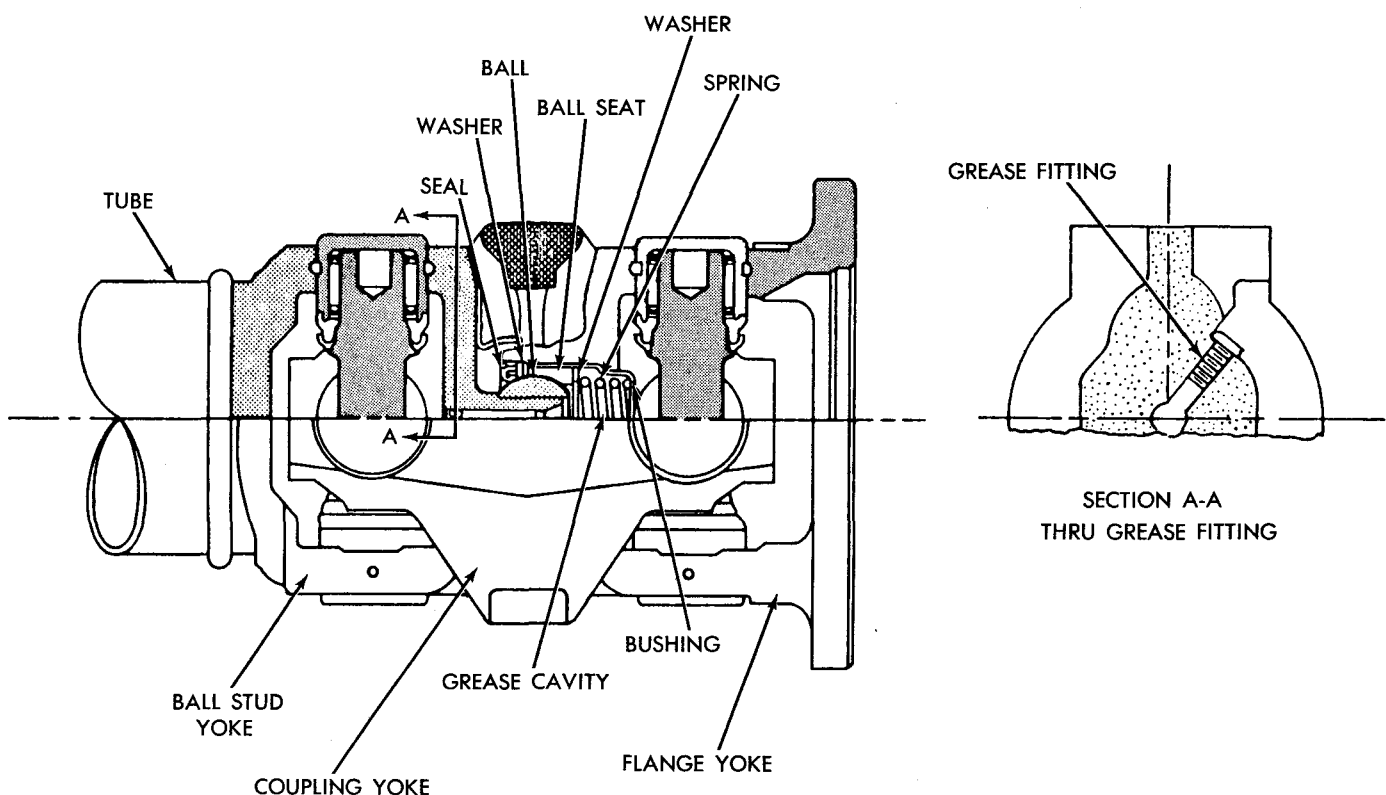
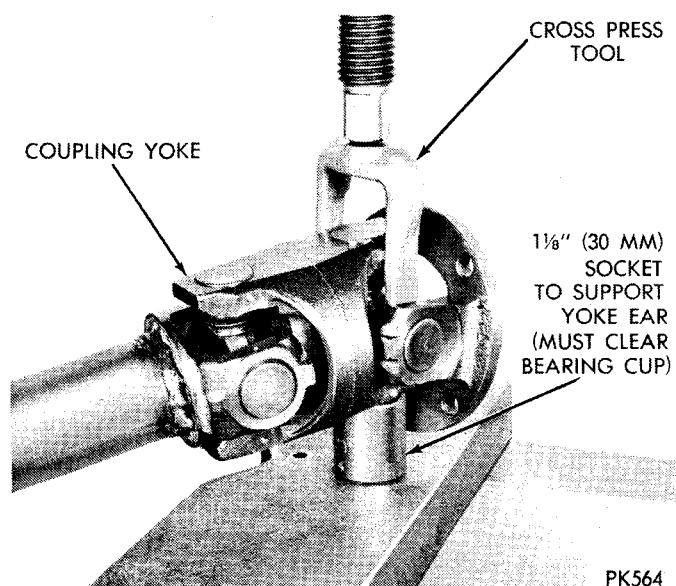
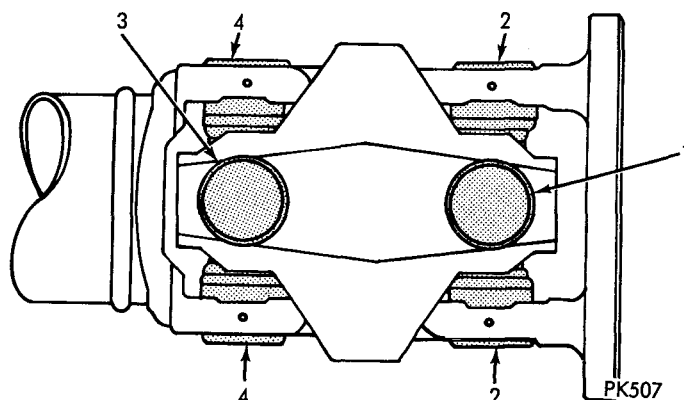

Fig. 8—Constant Velocity (CV) Universal Joint
Fig. 9—Bearing Cup Removal (Tool C-4365-1)
Fig. 10—Bearing Cup Removal Sequence
(1) To remove cross assembly support the prop shaft with universal joint (Figure 8) in a horizontal position in line with the base plate of a press. Place "U" joint so that the lower ear of the shaft yoke is supported on a 1-1/8" (30 mm.) socket (Figure 9). Place cross press tool C-4365-1 on the open horizontal bearing cups and press the lower bearing cup out of the yoke. Tool will shear the plastic which retained the bearing cup. Observe cup removal sequence (Figure 10).